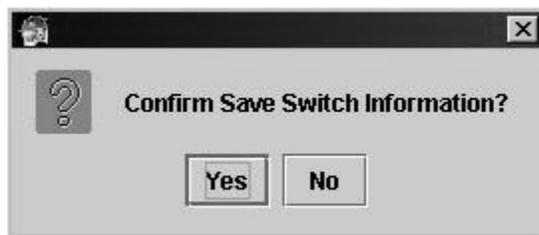

Figure 5-2: Confirm Save Switch Dialog
3. Click **SAVE**. The Select an Option dialog displays. See Figure 5-2.